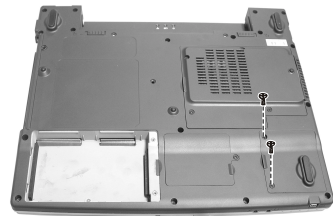

Figure 2-21 Remove two screws
3. Remove the two screws fastening the Mini PCI compartment cover (Figure 2-21)